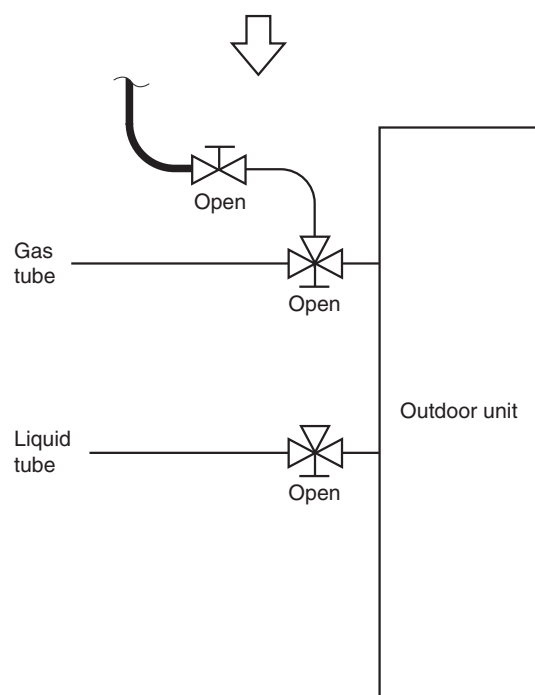

Fig. 1-127
- If the additional refrigerant charge amount cannot be charged at once, charge the remaining refrigerant in liquid form by using the gas tube service valve with the system in Cooling mode at the time of test run. (Fig. 1-127)